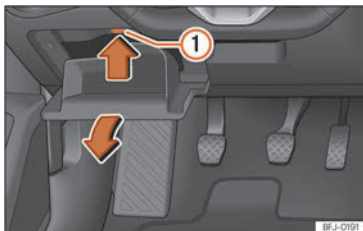

Fig. 228 On the dashboard on the driver side: lid of the fuse box.
- Open the storage compartment on the driver side >>> Fig. 228.
- Press the locking tab >>> Fig. 228 ① upwards, in the direction of the arrow, and at the same time open the storage compartment even more and remove it until the fuse box can be accessed.